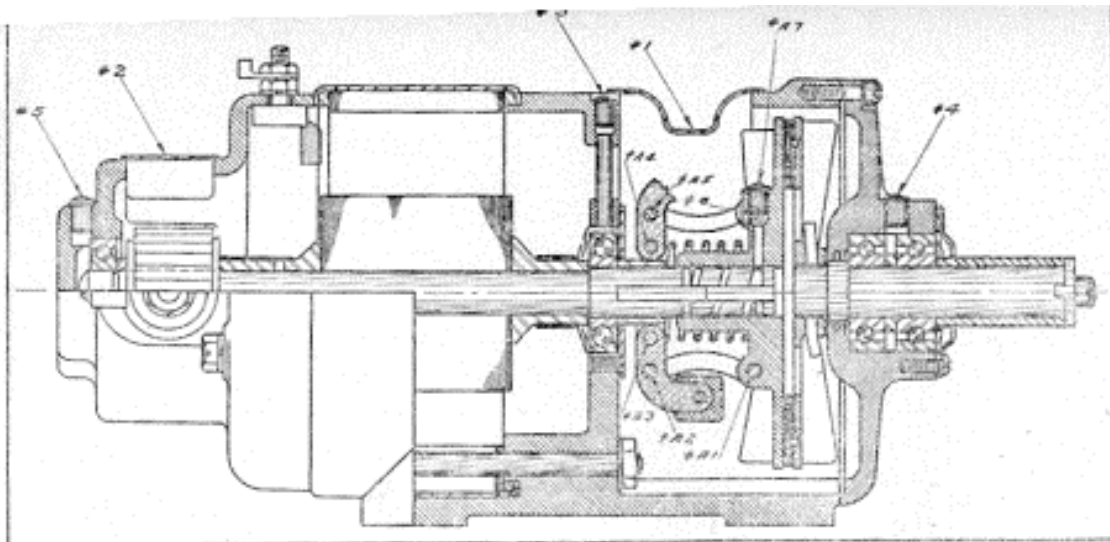
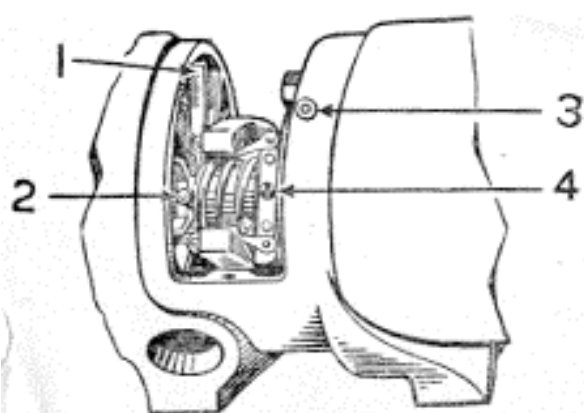
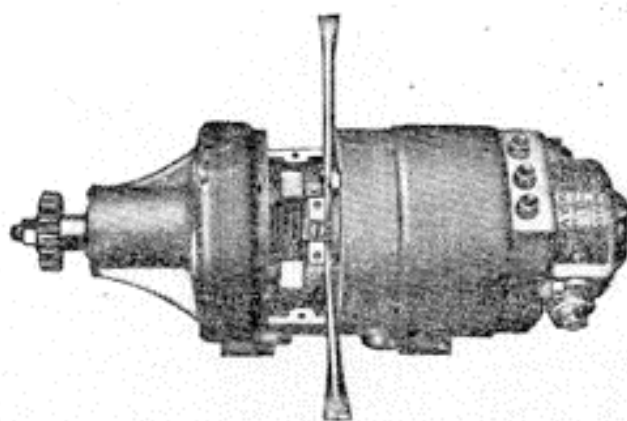

Fig. 1
Fig. 3
Fig. 4
**Generator.**—Generator regulation is by speed regulating governor. As the armature shaft rotates, the weights are thrown out from the center, partially overcoming the spring pressure, thus lessening the friction between the driving and driven discs. As this action is directly proportional to the speed, the armature speed and voltage are held practically constant after a certain predetermined rate is reached. The clutch should be so adjusted that the armature will be driven at 1250 R. P. M., engine running at the equivalent to 10 miles per hour car speed. Generator should deliver 8 amperes at 6.5 volts when running at this speed (1250 R. P. M.). To adjust regulator, first remove cover (No. 1, Fig. 1), then loosen screw (No. 4, Fig. 3) one full turn. Then insert two screwdrivers on opposite sides of shaft, just back of block (See Fig. 4), compress spring and tighten set screw. Bringing governor springs up 1/16 of an inch will increase output 2 amperes. Engine and generator should be normally warm from operation when governor is adjusted. Generator and governor are shown in cross section in Fig. 1. As these machines have all been in use for a number of years, the governor parts on some machines have worn out, or are otherwise in an unsatisfactory condition. If it is not desired to keep up the governor, the machine can easily be changed into a reverse series field regulated type. As machine is built, it charges the battery as a straight shunt generator, compounding only when lights are turned on, the current through the series field tending to increase the output.